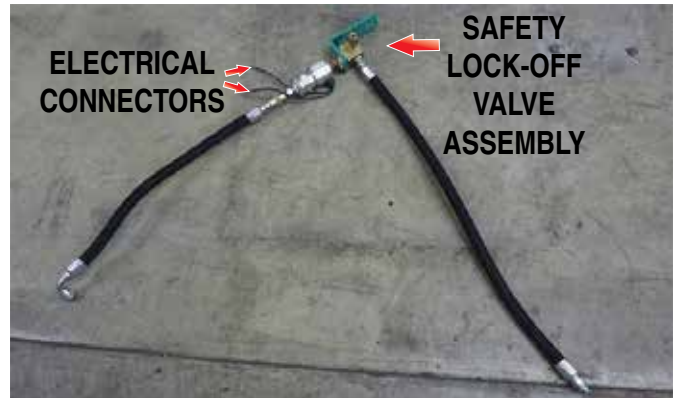

Figure 15. Safety Lock-Off Valve Removal
10. Unplug electrical connectors and remove safety lock-off valve as an assembly (Figure 15).